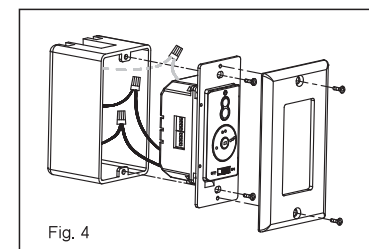

Fig. 4
Step 2. Make the electrical connections as shown in Fig.4. If your outlet box has a ground wire (Green or Bare Copper) connect the Wall Transmitter's ground wire to it. Otherwise connect the Wall Transmitter's wire directly to one of the screws from the outlet box. Secure all wire connections with the plastic wire nuts provided.